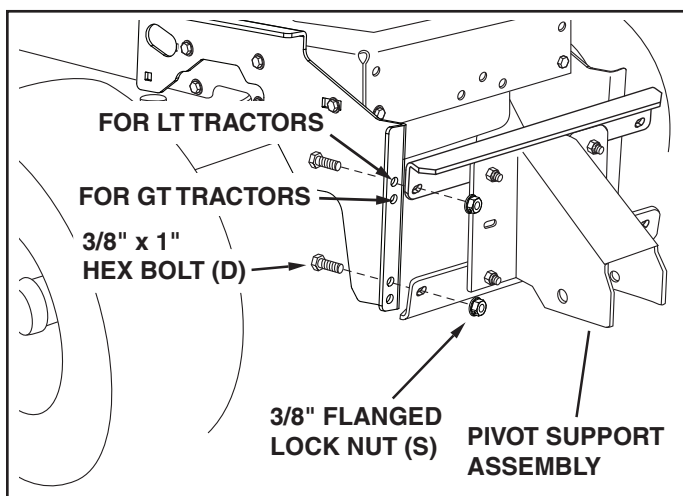

FIGURE 11
21. Attach the pivot support assembly to the hanger brackets, using the upper holes for LT Tractors, or the lower holes for GT Tractors. Use four 3/8" x 1" hex bolts (D) and 3/8" flanged lock nuts (S). Do not tighten yet. See figure 11.